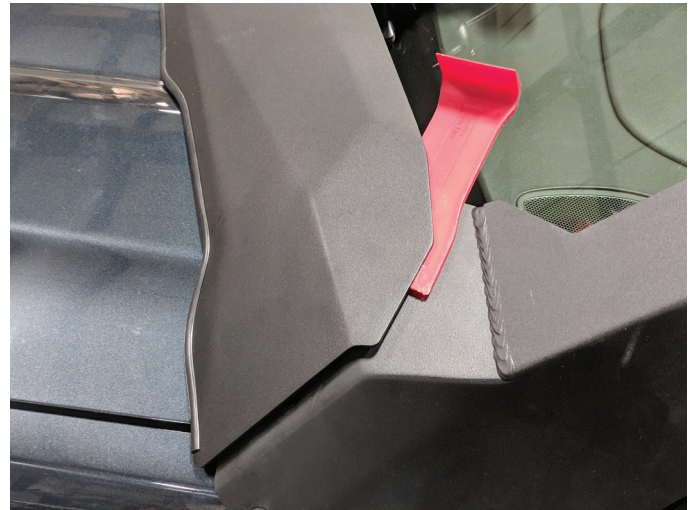

Figure 27
16. Using a plastic panel pry bar, insert the pry bar under the Cowl and on top of the arm to maintain a symmetrical gap on each arm. (Figure 27)